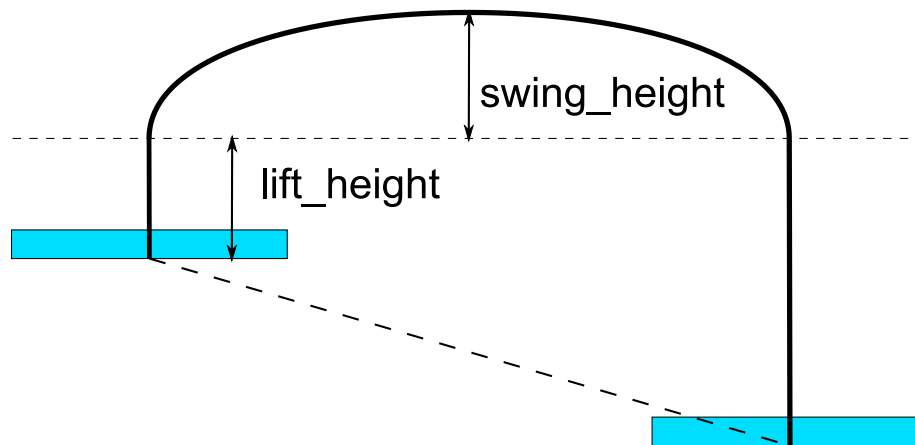

Figure 8: Swing trajectory parameters for the Step behavior
- `lift_height`: how high to lift the foot vertically above the maximum of the start and end positions of the foot. See Figure 8 for how this affects the swing trajectory.